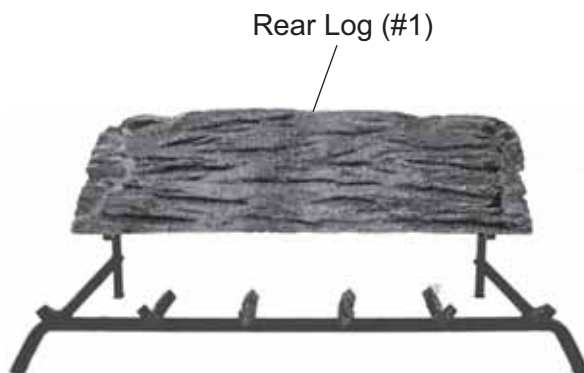

Figure 27 - Centering Rear Log (#1) on Grate Bars
2. Center rear log #1 on grate bars and flush with rear of the grate. *See Figure 27.*